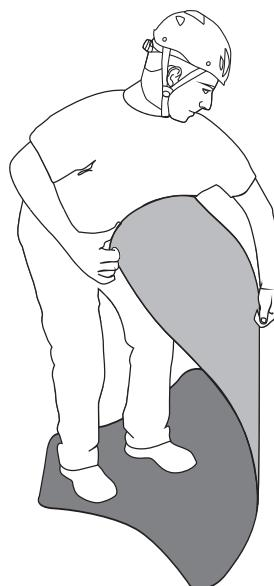

Fig.7
- Remove “**HALF ROLLY**” rescue sheet from the transport bag (O) and remove the ratchet sling (N),
- Distend the support surface (A) and flatten it, rolling the ends over in the opposite direction and folding the central section (fig. 7)